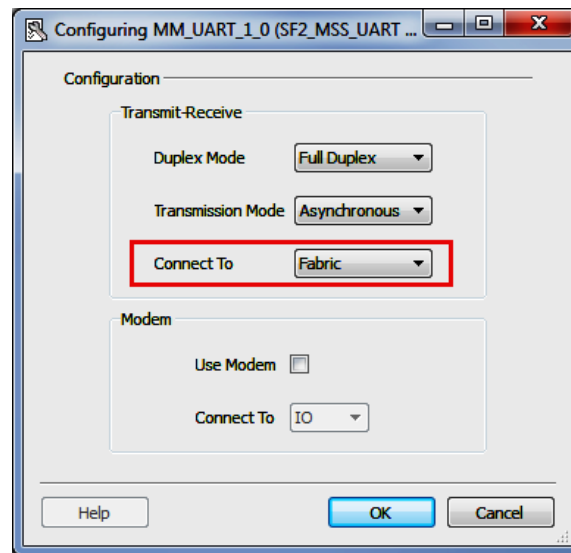

Figure 10 • MMUART Configuration - Fabric Connection
12. From the MMUART configuration window, select **Fabric** from the **Connect To** drop down list under **Configuration** and leave the other settings default as shown in Figure 10. The MMUART signals are routed through the fabric and connected to the R29 and R24 package pins. The R29 and R24 pins are connected to the FTDI or mini-USB interface using the J129 and J133 jumpers.